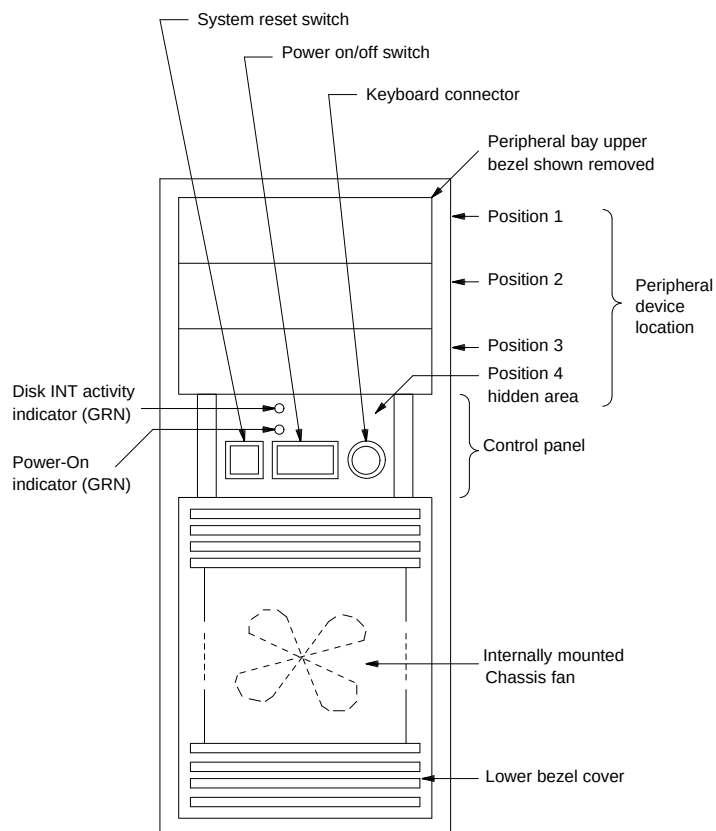

Figure C-15. MAP/40 Front Control Panel Assembly
6. Remove the bottom front bezel that holds the card cage fan filter, and the top front bezel in front of the peripheral devices as illustrated in Figure C-15.
1. If the main power switch is to be removed, disconnect the four fast-on connectors to the switch, making special note of the connections by referring to Figure C-15.
4. Reconnect the four fast-on power connections in the proper order as shown in Figure C-15.
1. Disconnect the two fast-on connectors to the reset switch, making special note of the *switch terminals* the two leads were connected to. The order of these two leads is not important, however, the proper switch contacts are. Refer to Figure C-15.
4. Reconnect the two fast-on power connections in the proper order as shown in Figure C-15.